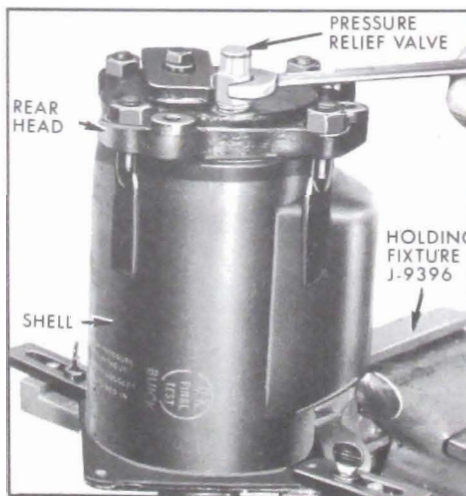

Figure 11-59—Removing Pressure Relief Valve (V-6 Engine Compressor Shown)
9. Attach J-9396 holding fixture to compressor and firmly mount assembly in vise. See Figure 11-59.